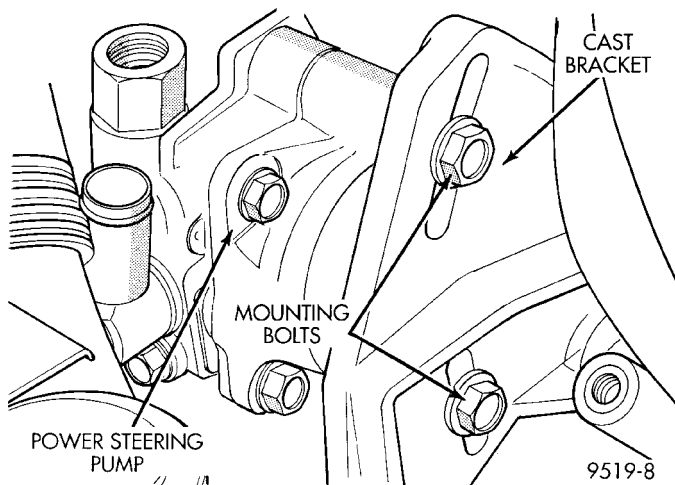
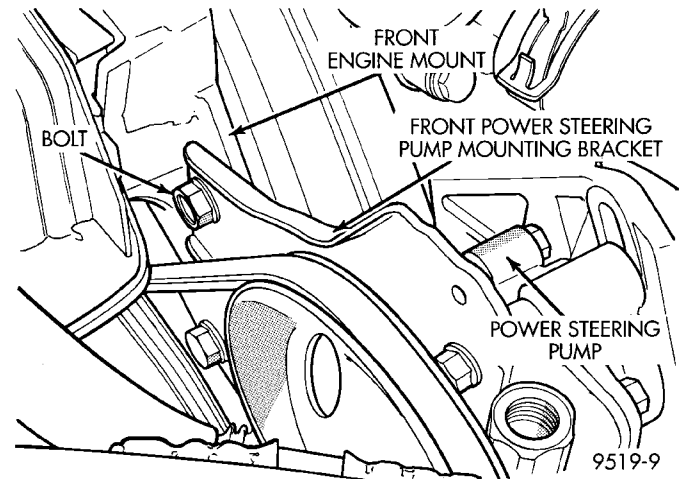
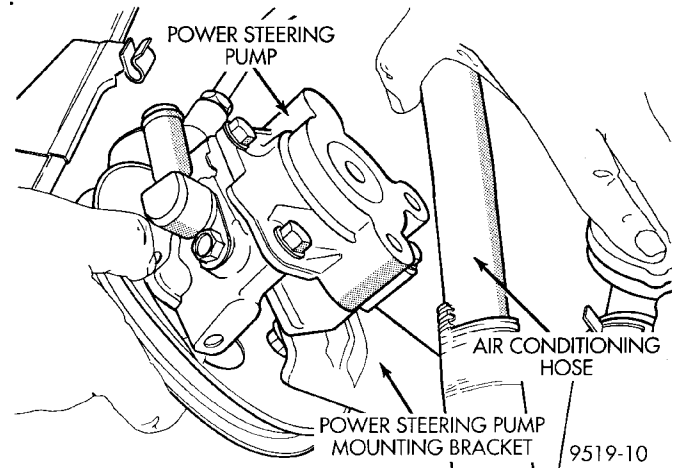
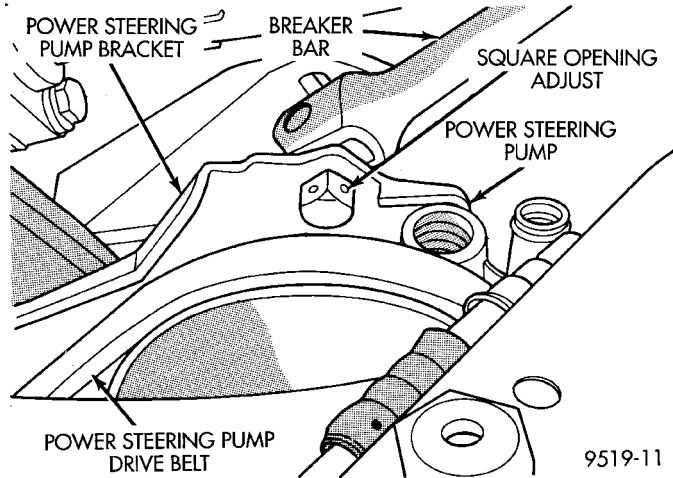

Fig. 24 Power Steering Pump Mounting Bolts (Rear)
Fig. 25 Power Steering Pump Front Mounting Bracket Bolt
Fig. 26 Power Steering Pump And Bracket
Fig. 27 Setting Power Steering Pump Drive Belt Tension
(7) Remove the 2 power steering pump to cast bracket mounting and adjustment bolts (Fig. 24).
NOTE: The power steering pump front mounting bracket is slotted at the bolt attaching it to the front engine mount (Fig. 25). This bolt only needs to be loosened to remove mounting bracket from engine.
(8) Loosen bolt (Fig. 25) attaching the power steering pump front mounting to the front engine mount only far enough to slide the bracket out from under the bolt.
(9) Remove power steering pump drive belt from power steering pump pulley.
(10) Remove power steering pump and front mounting bracket as an assembly from the engine (Fig. 26).
(1) Install power steering pump and mounting bracket as an assembly (Fig. 26) back on the engine using reverse of removal procedure.
(2) Slide front power steering pump bracket between bracket mounting bolt and front engine mount (Fig. 25). **Be sure washer on bolt is between the head of the bolt and bracket and does not get trapped between bracket and engine mount.**
(3) Install the 2 power steering pump to cast mounting bracket attaching bolts (Fig. 24). **Do not tighten bolts at this time.**
(4) Install power steering pump drive belt on power steering pump pulley.
(5) Install a 1/2 in. breaker bar in the square hole in the front power steering pump mounting bracket (Fig. 27). Then rotate pump in to obtain the correct
drive belt tension. See Accessory Drive Belts in Group 7 Cooling System of this service manual for the correct drive belt tension specification. When correct drive belt tension is obtained torque the 2 bolts at the power steering pump cast mounting bracket (Fig. 24) to 54 N-m (40 ft. lbs.). Then torque the front power steering pump mounting bracket bolt (Fig. 25) to 54 N-m (40 ft. lbs.).